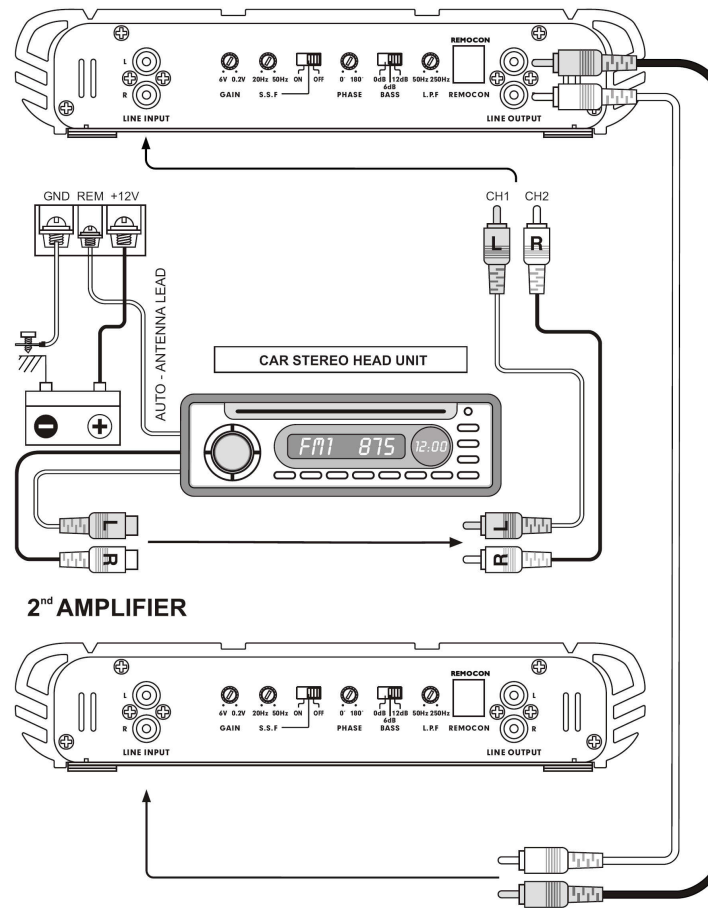

Fig.2
- Connect the low level/line level RCA cables from the head unit, or signal processor, to the line level input on the amplifier. See Fig.2 system wiring diagrams.